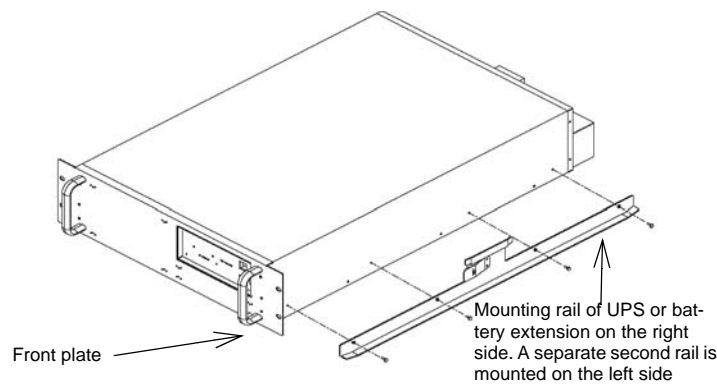

Fig. 3: Mounting the rails to the body of the UPS or battery extension
3. Using Fig. 3, assemble the mounting rails to the body of the UPS or battery extension.
5. Fasten the chassis to the rack as shown in using the screws (D) and flat washers (E).
The units must be secured in the rack on both sides. When using the UPS attached mounting rails (see Fig. 3 below), the single unit can easily be inserted into a 3 U mounting space. In order to secure the unit in the horizontal position, the front-plate has to be secured to the 19-inch rack at the indicated points on both sides of the unit. It is not permissible to secure the unit only at the front-plate. This may damage the unit and/or other mounted units.